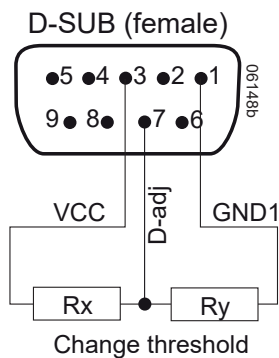

Fig. 20
Pin 7 of the D-SUB connector allows for adjustment of the threshold levels of D1 and D5. Both levels are influenced by the voltage divider R_x / R_y . Resistor R_x to pin 3 (VCC) lowers the levels, whereas R_y to pin 1 (GND1) increases them (see fig. 20).
Resistor R_{ext1}, connected between R (pin 2) and GND1 (pin 1) of the D-SUB connector or according to fig. 20.
Resistor R_{ext2}, connected between R (pin 2) and VCC (pin 3) of the D-SUB connector or according to fig. 20.
Note: If the R function is not included in M1 or M2, refer to figure 20 how to connect R_{ext1} or R_{ext2}.
b) Adjustment by an external control voltage V_{ext} (1.25 – 2.75 V), connected between R (pin 2) and GND (pin 1) of the D-SUB connector or according to fig. 20.